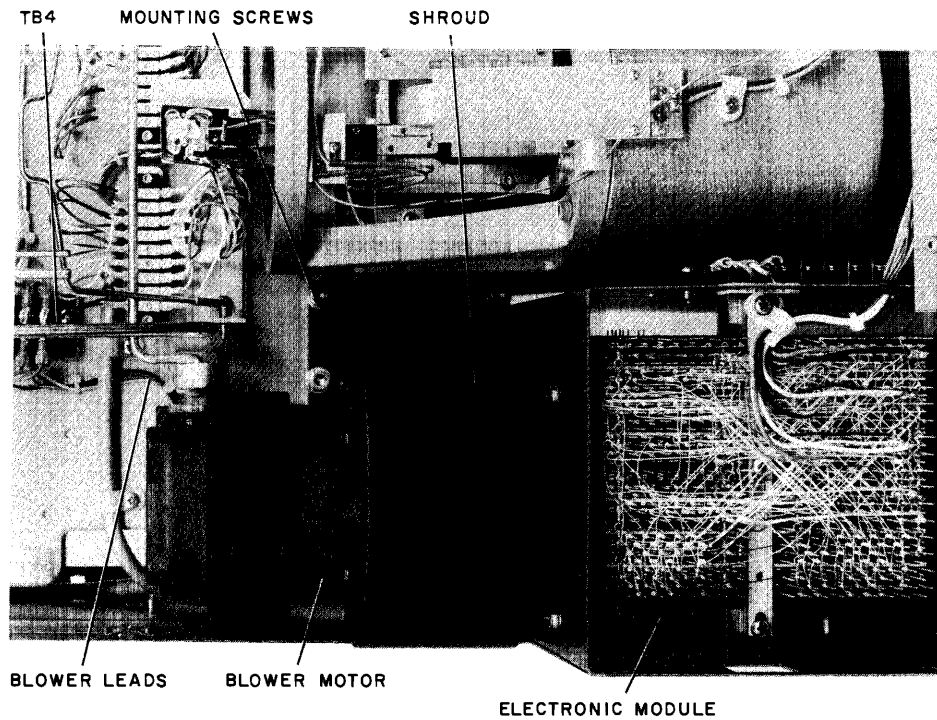

Figure 5-15 Blower Motor Removal
6. Disconnect the spindle motor leads from TB4 (Figure 5-15) and from the spindle motor relay (Figure 5-13A).
3. Connect the spindle motor leads to TB4 (Figure 5-15) and to the spindle motor relay (Figure 5-13A).
9. Disconnect the blower leads from TB4 (Figure 5-15).
1. Secure the blower and shroud to the baseplate (Figure 5-15) with the previously removed hardware.